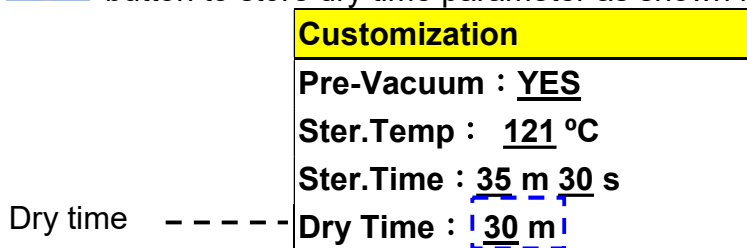

Figure 86
- H. Press  or  button to move the cursor as shown in Figure 86
- Press  button to store dry time parameter as shown in Figure 86.